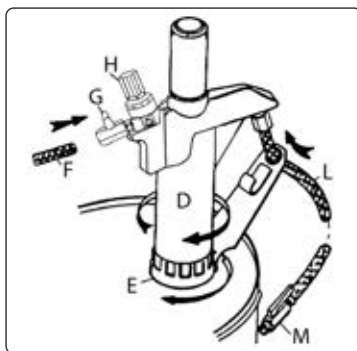

fig.5
- 4.2.11.3. Screw the pump (Fig.5.D) into the drum.